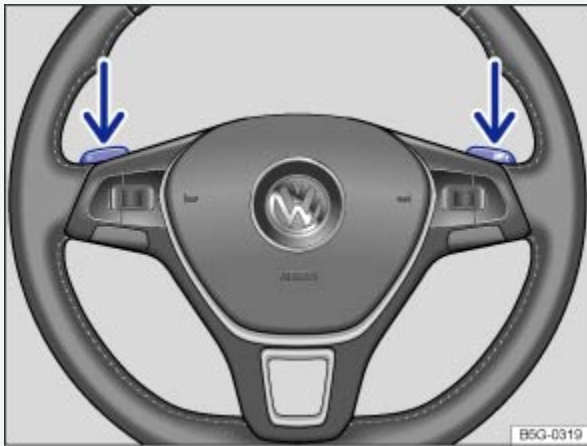

Fig. 143 Steering wheel with Tiptronic shift paddles (if equipped).
- The paddles ⇒ *Fig. 143* (arrows) work when the selector lever is in the Tiptronic position or when the selector lever is in Drive or Sport Drive (D/S). You do not have to move the selector lever over to the right into the Tiptronic position.